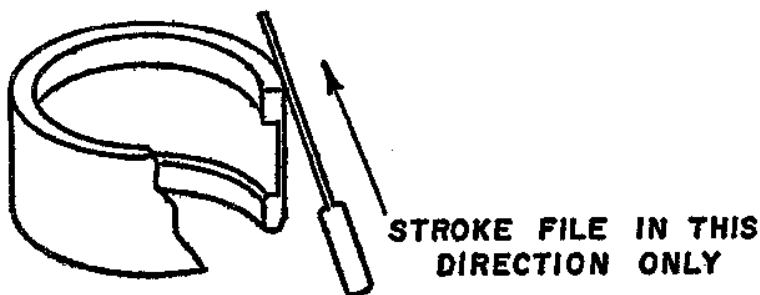

Figure 4
8. Now use a flat file to blend the edges of the plastic into the contour of the shell. Stroke the file only in the direction shown by the arrow in Fig. 4.